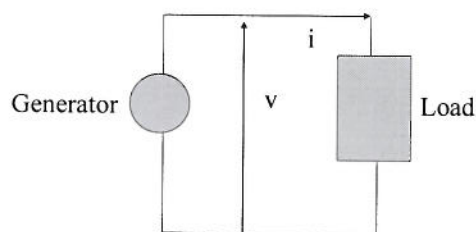

Figure 1. Single phase AC circuit
- (a) Consider a single phase AC circuit shown in Figure 1. Expressions for generator voltage and current are given by the following expressions:
- a) Show that for a single-line to ground (LG) fault with zero fault impedance, the sequence networks are connected in series. [4]
- b) A single line diagram of a power system is shown in Fig 1 where the per unit (pu) positive (1), negative (2) and zero (0) sequence reactances referred to 100 MVA base are shown in Table 1. Draw the positive, negative and zero sequence networks for this system. [5]
- c) For the system in Fig. 1 calculate the fault currents in the three phases for the following fault types assuming 1.0 per unit (pu) voltage for both generators and zero fault impedance.